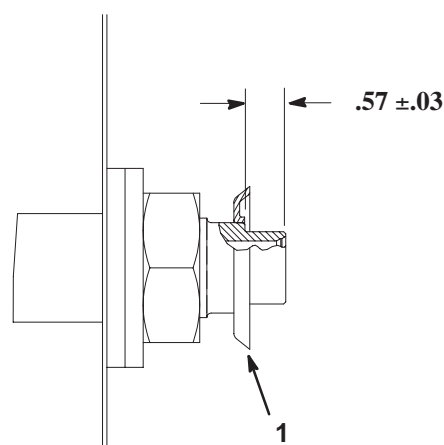

Figure 12
7. Inspect seal guards. Install seal guards onto shaft positioning as shown in figure 12.